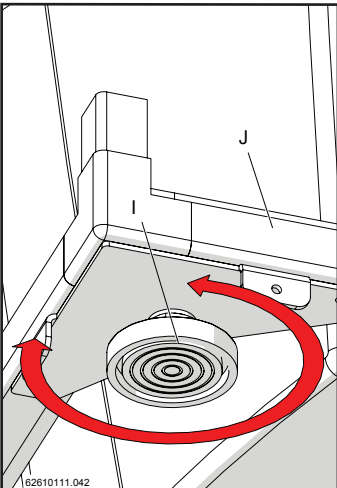
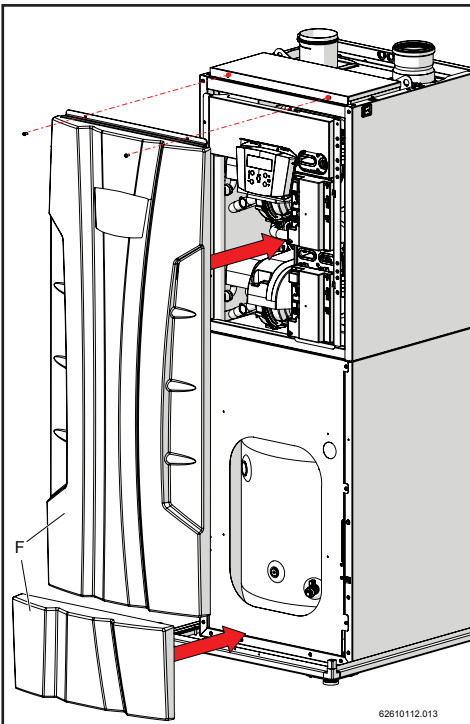

Figure 12-8
Figure 12-7
- 4.- Insert the lower and upper front coverings "F" on the appliance (figure 12-7). Then adjust the adjustable feet "I" on the lower frame "J" to stabilise it on the installation surface (figure 12-8).